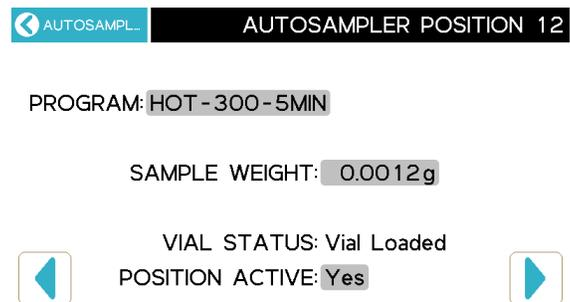

Figure 7
- Verify that the VPXL recognizes that a vial is loaded into the selected position and the position is active. Then select a test program and enter the sample weight (fig. 7).